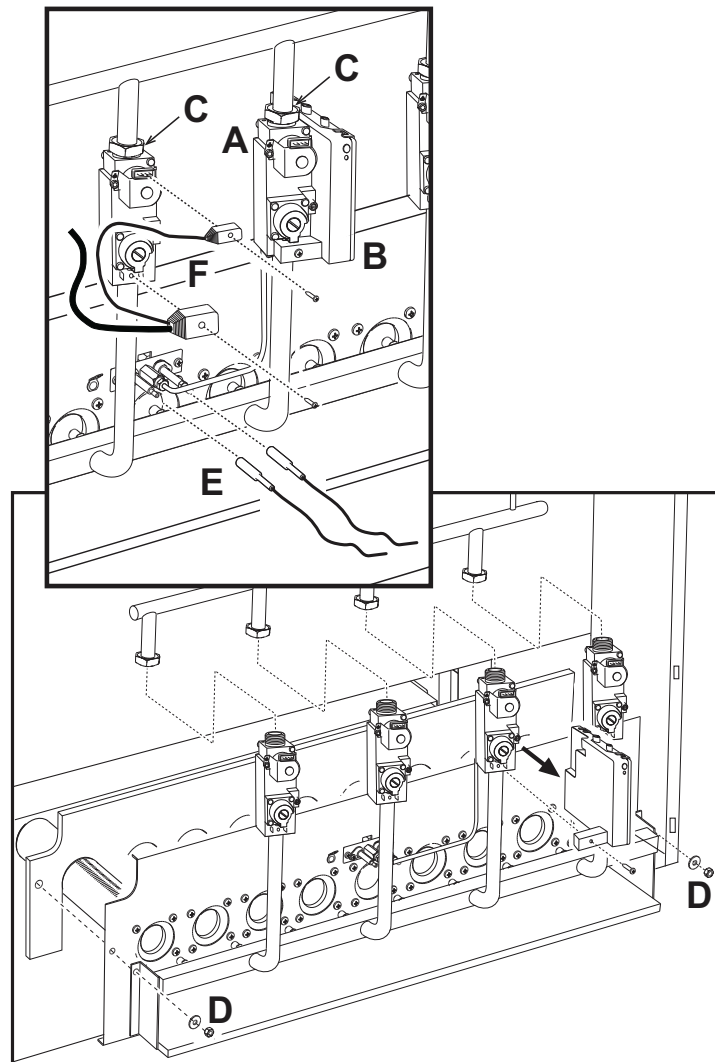

fig. 7 - Burner removal and cleaning
- Undo the two screws securing the electronic flame controller (detail **B** - fig. 7) to the gas valve (detail **A** - fig. 7) and remove the controller.
- Undo the nuts fixing the gas supply pipe ahead of the gas valves (detail **C** - fig. 7).
- Undo the two nuts fixing the combustion chamber door to the cast iron elements of the boiler (detail **D** - fig. 7).